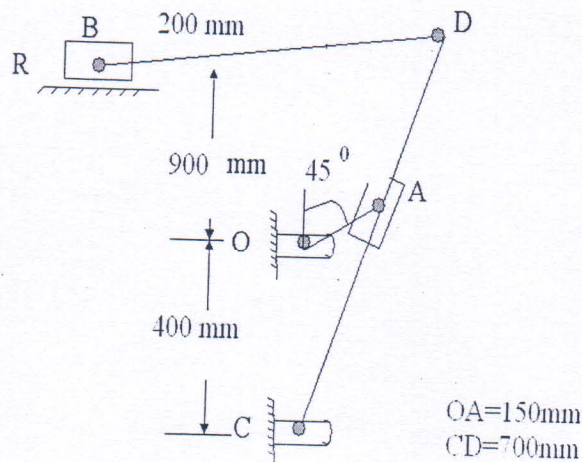

Fig. 1
- Q2** Fig.1 shows an quick return mechanism. The driving crank OA is 150 mm long and rotates at a uniform speed of $MM * 50$ r.p.m. in counter clockwise direction. For the position shown in fig.1 Find i) velocity of ram R ii) Acceleration of ram R and iii) acceleration of sliding block A along with slotted arm CD by using Vector or space method. Here MM is your Birth Month. 12
- Q4 (b)** In Quick return mechanism shown in Q.2 figure 1. the force 1 KN acting perpendicular to DB at its mid point in inward direction. Determine the static equilibrium torque on link OA by virtual work method. **10**